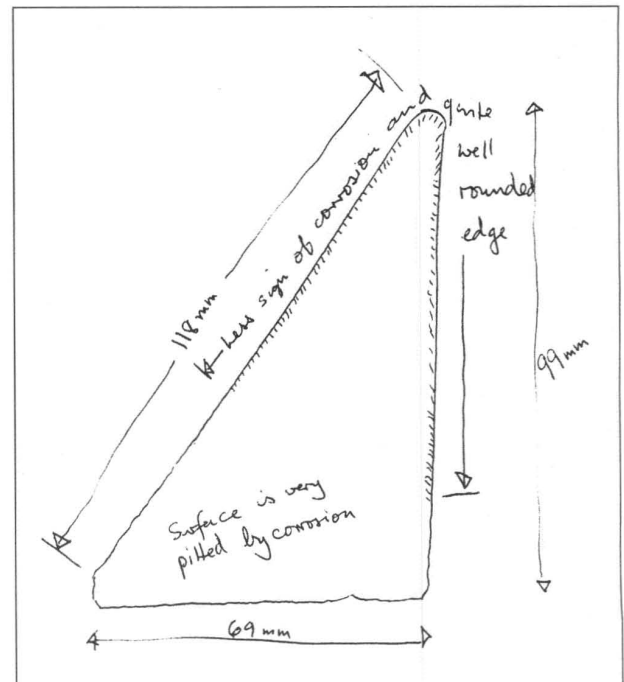

Fig. 7: Sketch of the gnomon by G. C. Lamb
The final piece of symbolism, Fig. 7, is a fine relief carving on the rear of the dial that depicts the Twins of Gemini. They stand for the alternate appearance and disappearance of the sun, therefore night and day, light and shadow. Being twins they are symbolic of the reprographic process and being composed of light and dark are the basis of printed communication
*Fig. 7. The Heavenly Twins, Gemini, stand for the alternate appearance and disappearance of the sun. Being twins they are here, symbolic of the reprographic process.*
In a very recent letter,10 Mr Lamb has informed me that: "There is a gnomon, but detached from the dial. I enclose a crude sketch (Figure 7.), but the dimensions are pretty accurate (and extremely close to your calculations). It is made of iron but very corroded at the lower end and there is no surviving trace of brazing/lead/solder to show how it could have been fixed in to the dial. Moreover, it is 34mm thick and the slot cut in the dial is 6-7mm." He goes on to say that Dinton church has a total of nine monumental brasses, that were examined and restored in 1949. Several of these are palimpsests. One, in particular, is the monument to Francis Lee (d 1558)... a brass, one piece of which is a palimpsest of a Flemish memorial engraved c 1380. So the sundial might be made of metal brought to the village at various dates during the sixteenth century by craftsmen installing one of the memorial brasses... [The full description of the palimpsest brasses is contained in an Article in Records of Bucks by D. C. Rutter in 1949 (Vol XVpt.3)]. This latest information is of much interest as it tends to confirm the possibility that the gnomon ( which I think is likely to be the original ) was 'free--standing' and probably separately 'leaded-in' to the pedestal, having been aligned in the meridian first. This also provides further weight to the argument that the sundial was made in the 16th century.